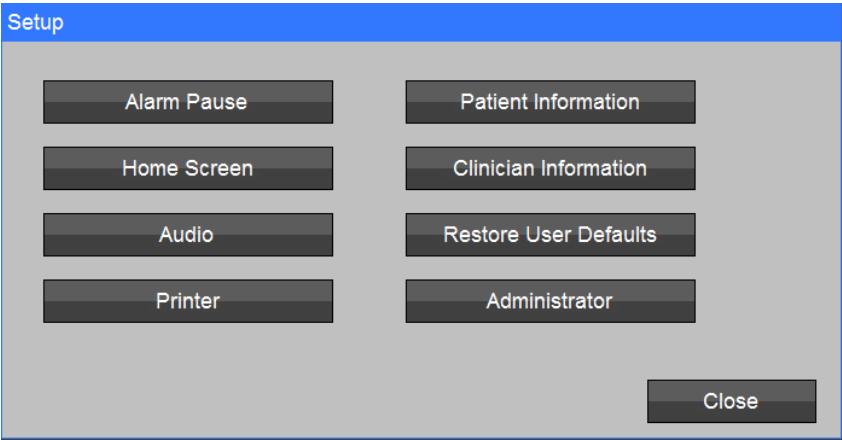

Figure 36: Setup Menu Screen
To enter the monitor's Setup Menu, press the **Setup** touch area located on the main screen (refer to Figure 36).
- 1) Press Patient Information key (refer to Figure 36) to enter Patient Information.